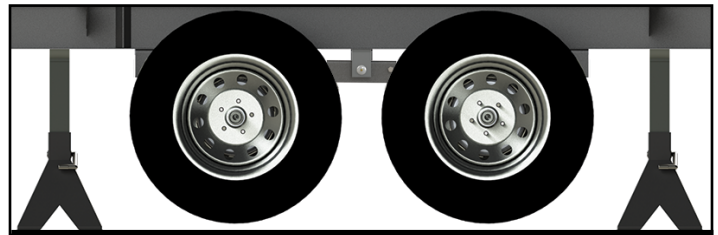

Fig.16
4. Using the properly-rated floor jacks, lift the trailer according to the manufacturer's recommendation until the wheels are no longer in contact with the ground (Fig.16).